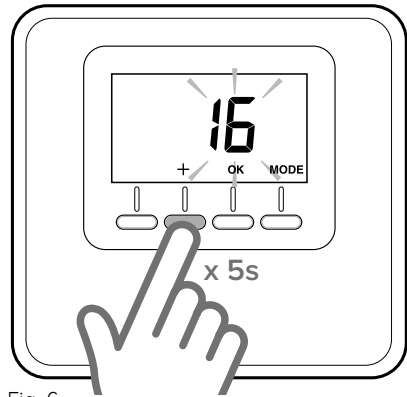

Fig. 6
- Hold the “+” key on the room sensor down for 5 seconds (Fig. 6). The display will alternate between the software version and modification index.